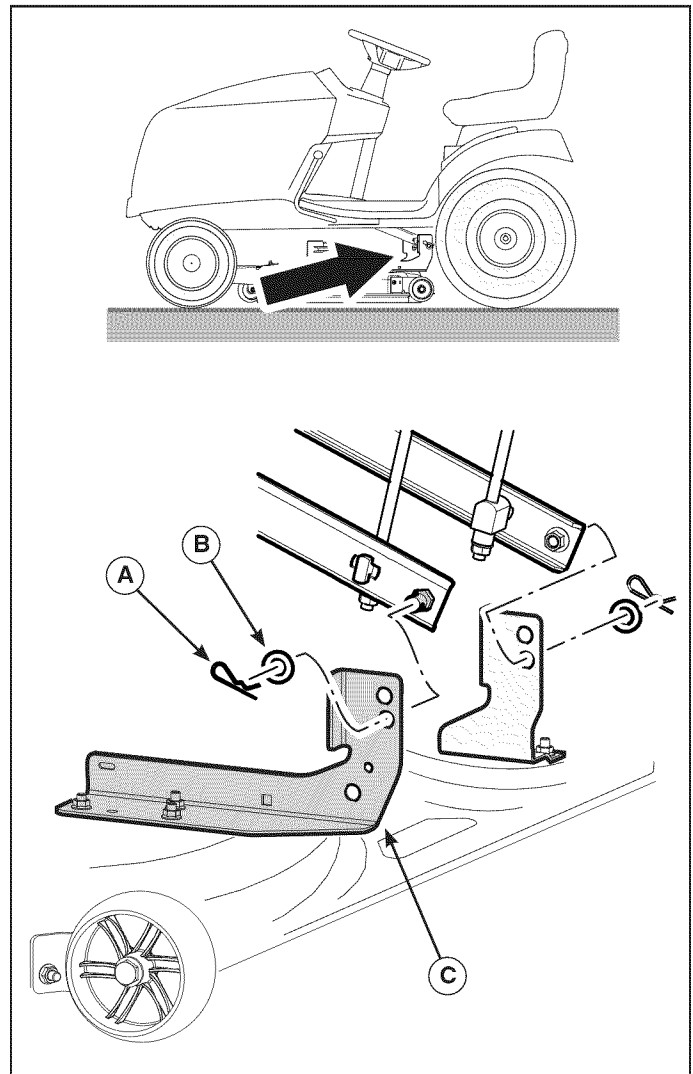

Figure 17
4. Remove cotter pin (A, Figure 17) and washer (B) that attach mower support (C) to tractor frame. Repeat for other side.
4. Install cotter pin (A, Figure 17) and washer (B) that attach mower support (C) to tractor frame. Repeat for other side.